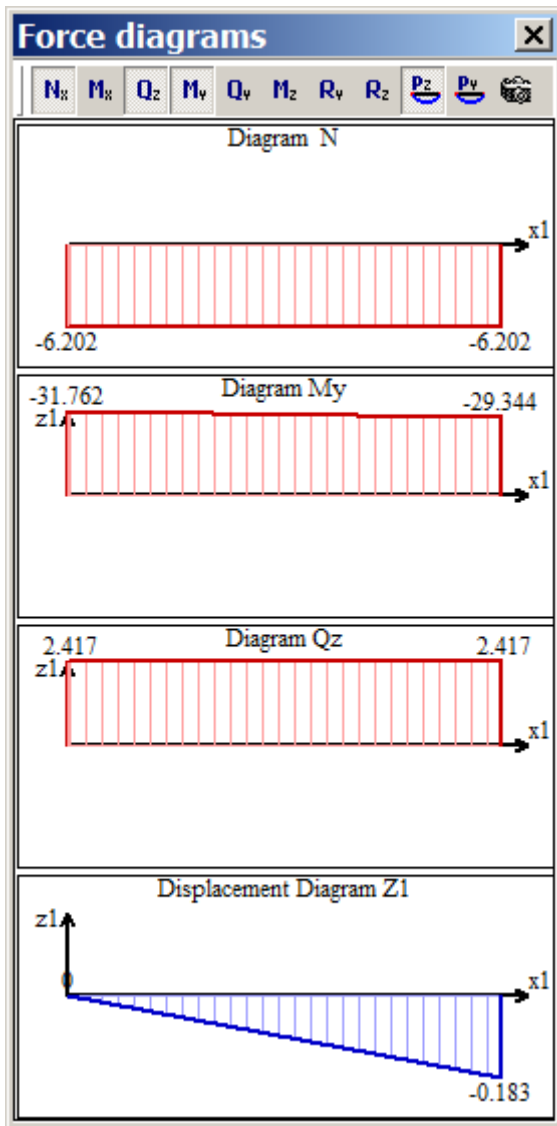

Figure 8.25 **Force diagrams** dialog box
- ⇒ To present diagrams of forces and displacements in the **Navigation window** (see Fig.8.25), select the **Diagrams** check box.